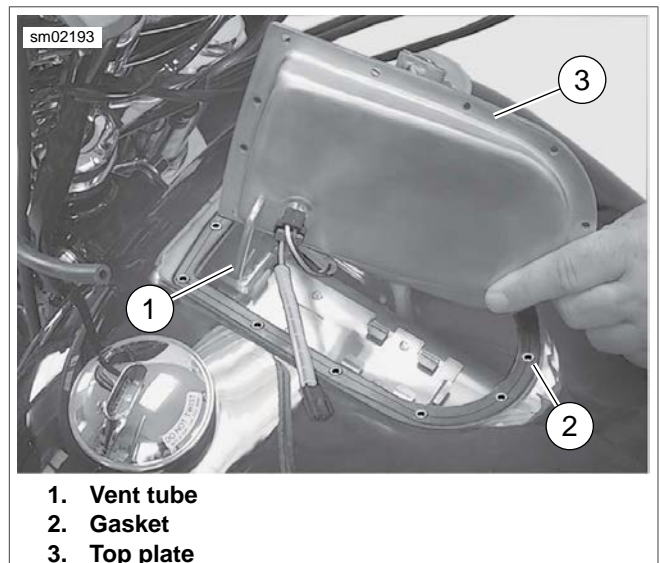

Figure 7-50. Fuel Line Clamp
8. See Figure 7-50. On FXDC, FXDL, FXDB, and FXDF models, rotate top plate (3) until vent tube (1) clears fuel tank.